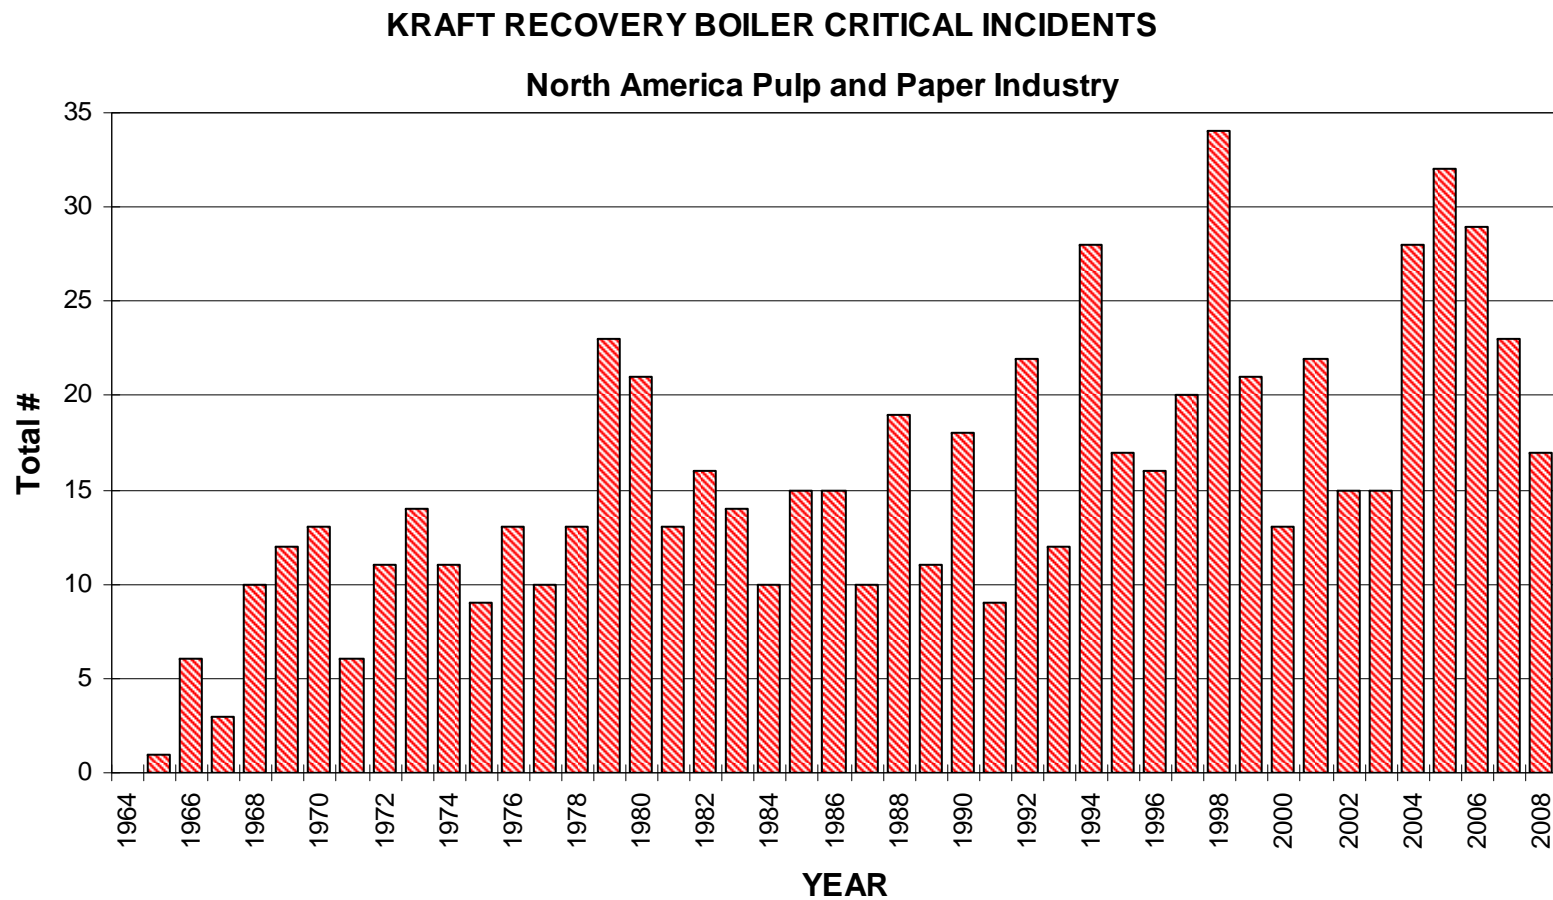
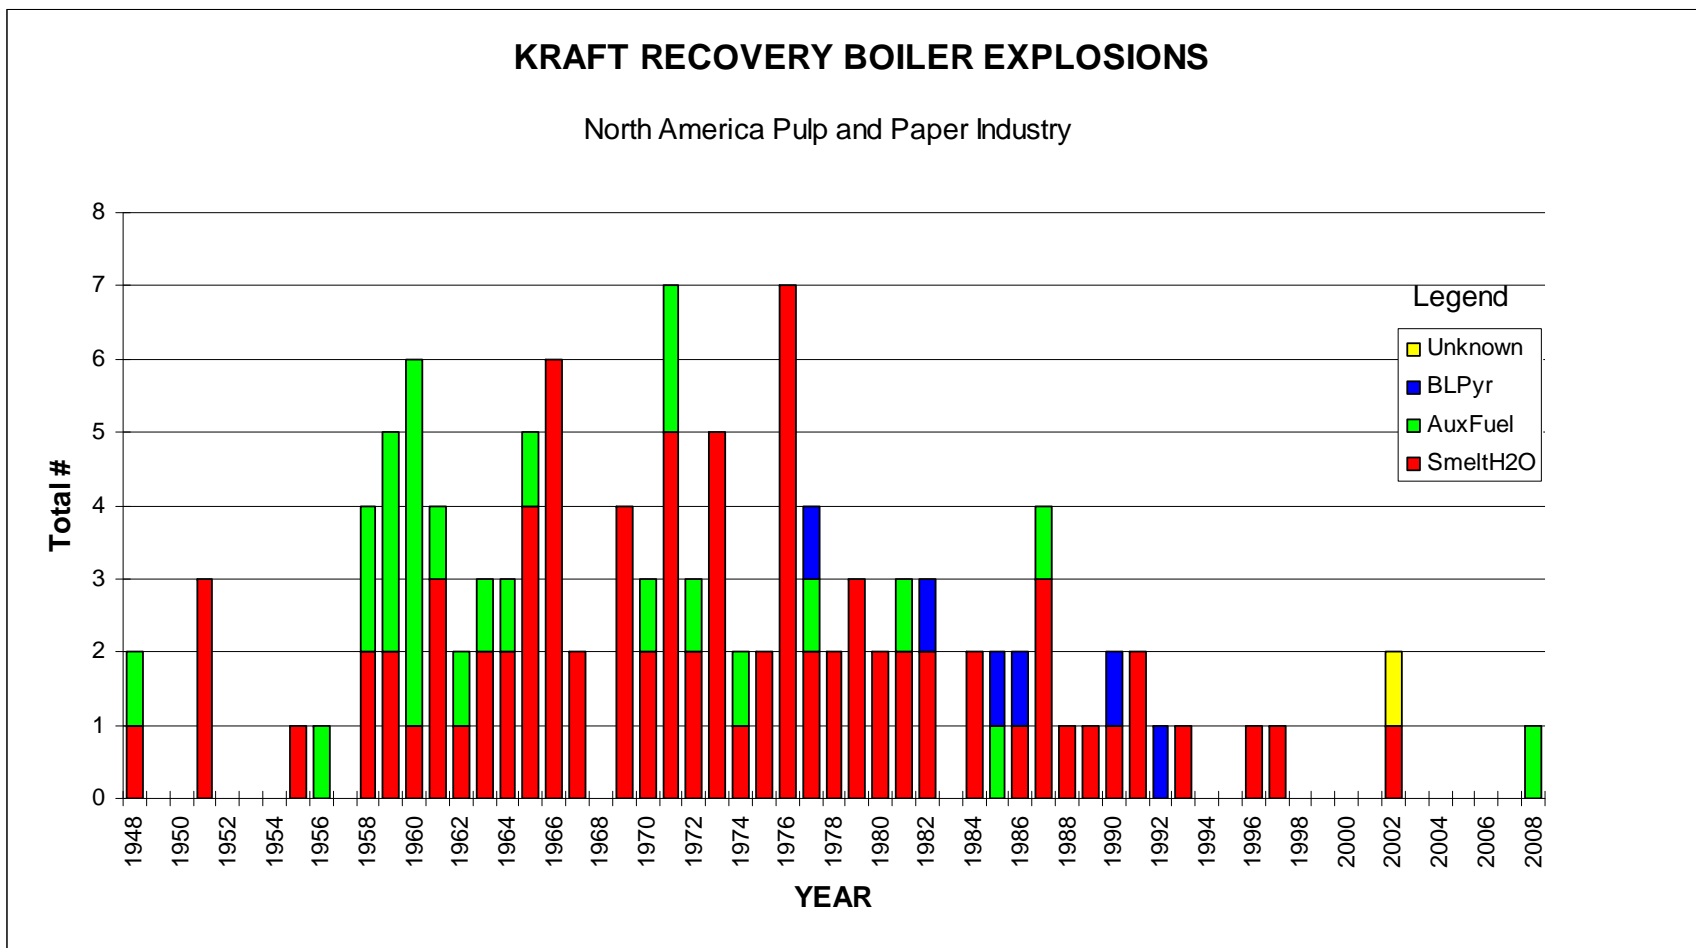

Figure 2
Figure 3
- Further discussion on Figures 2 and 5 – Definition of “Sufficient Auxiliary Fuel Hearth Burners in Service” and “Insufficient Auxiliary Fuel Hearth Burners in Service” respectively.
Figure 2 shows the critical incidents reported each year. The 17 Critical incidents reported for the year appear to be below where we have been running in the recent past. The increasing trend may be a result of changes in the definition of Critical or could result from better reporting by the mills. Figure 3 shows that the string of years without an explosion has been broken with the Aux Fuel explosion at Vicksburg.